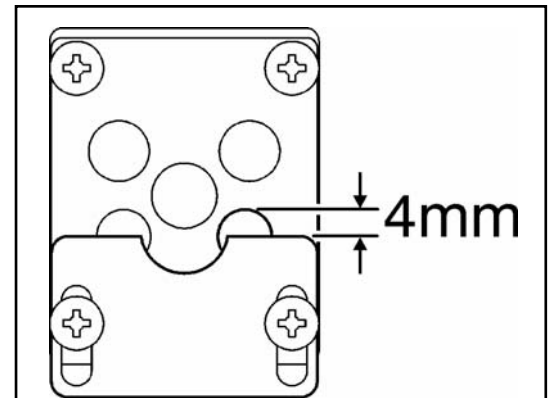

Figure 22.
1. The aeration shutter is factory set and should not require adjustment. If the shutter is not as shown in figure 22 and requires adjustment, loosen the two aeration shutter screws, slide the aeration shutter to the position shown in figure 22 and tighten the fixing screws.